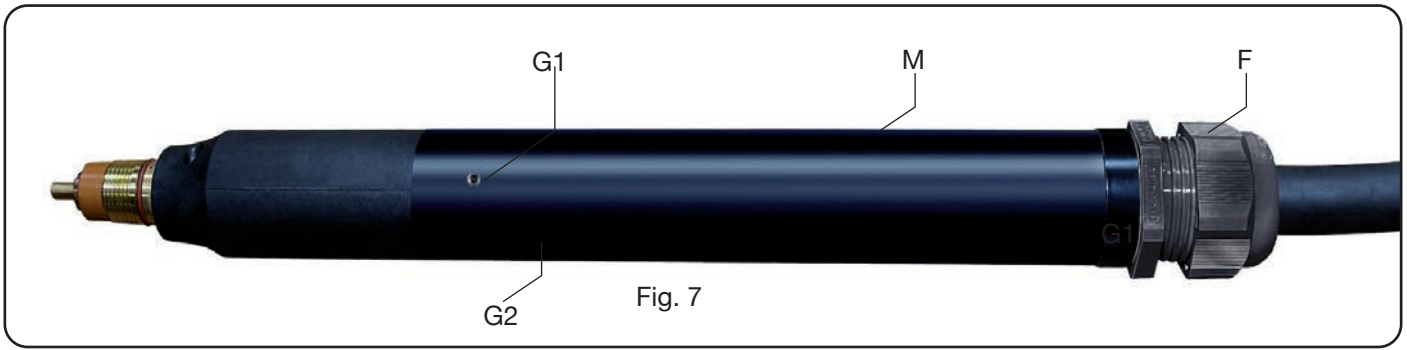

Fig. 7
- Remove cable gland **F** Fig.7.